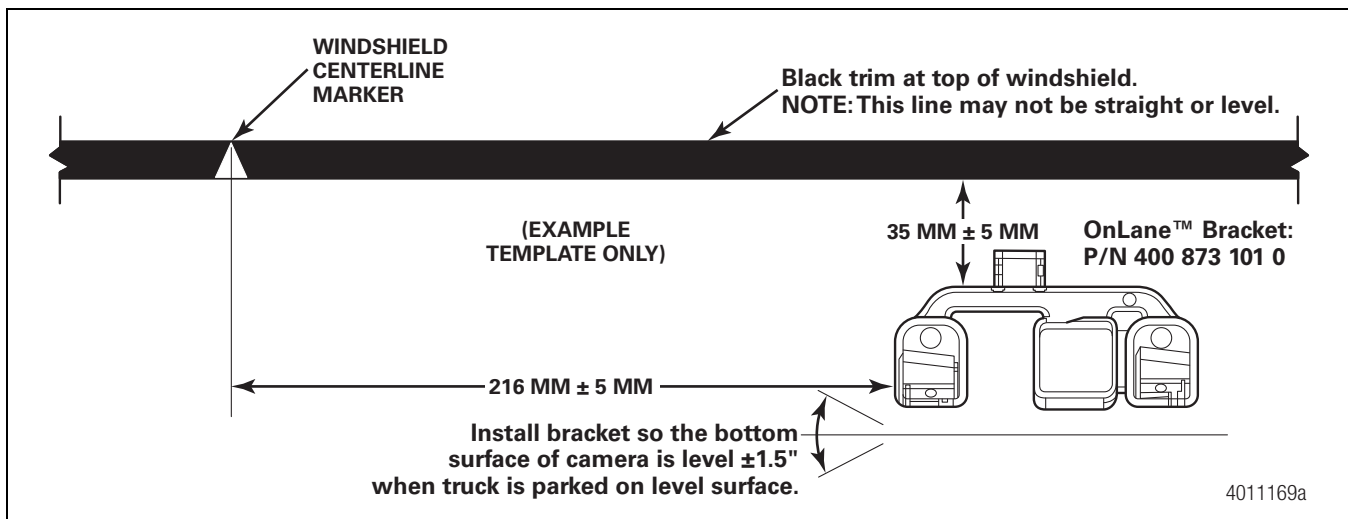

Figure 3.1
4. Align the template so that the markings on the template are square to the centerline markings and the frit/trim line markings at the top of the windshield. Figure 3.1. The template shown is an example only.